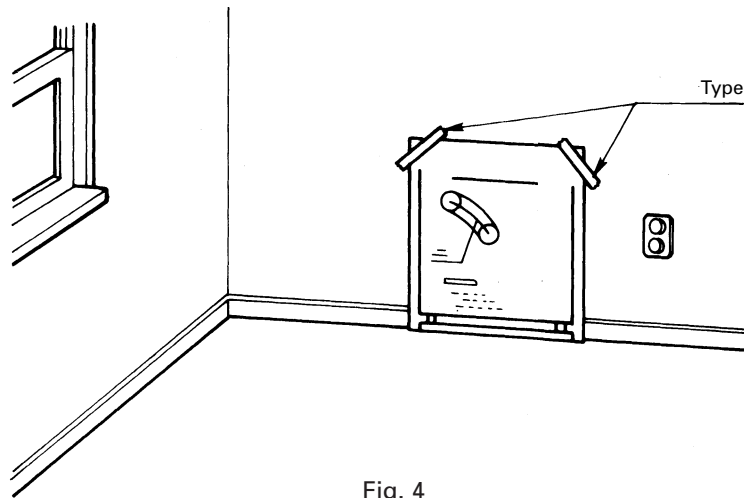

Fig. 4
- For standard installation, use the template enclosed with the heater to position the hole for the flue pipe. Tack or tape template to the wall at the desired position (See Fig. 4)